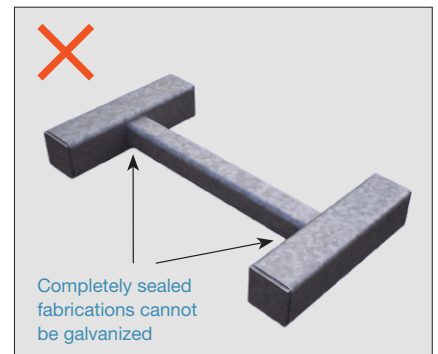
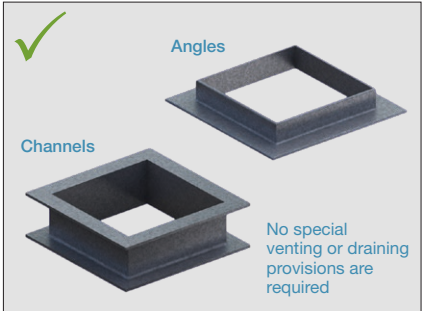

Figure 14: Closed Hollow Sections – Unsatisfactory
Figure 24: Outward Facing Sections – Preferred
Figure 14 to Figure 24 show basic design practices to ensure articles are able to be successfully galvanized and a quality hot dip galvanized coating is achieved, while others may need a significant amount of venting and draining. Generally, the more complex the hollow fabrication, the longer the immersion and withdrawal time due to the need for changes in the flow direction (e.g., corners or tees) or changes in the cross-sectional area (e.g., diameter) the zinc flows through. In these cases, more or larger holes than the minimum recommendations should be considered to help increase flow rates, allowing decreased dipping times and better quality.
Some designs can provide adequate natural drainage without requiring holes (Figure 24).
- Internal vent holes must be at least 50% of the connecting section. It is recommended they be the same size as the internal diameter of the connecting section where practical. See Figures 14 and 18.